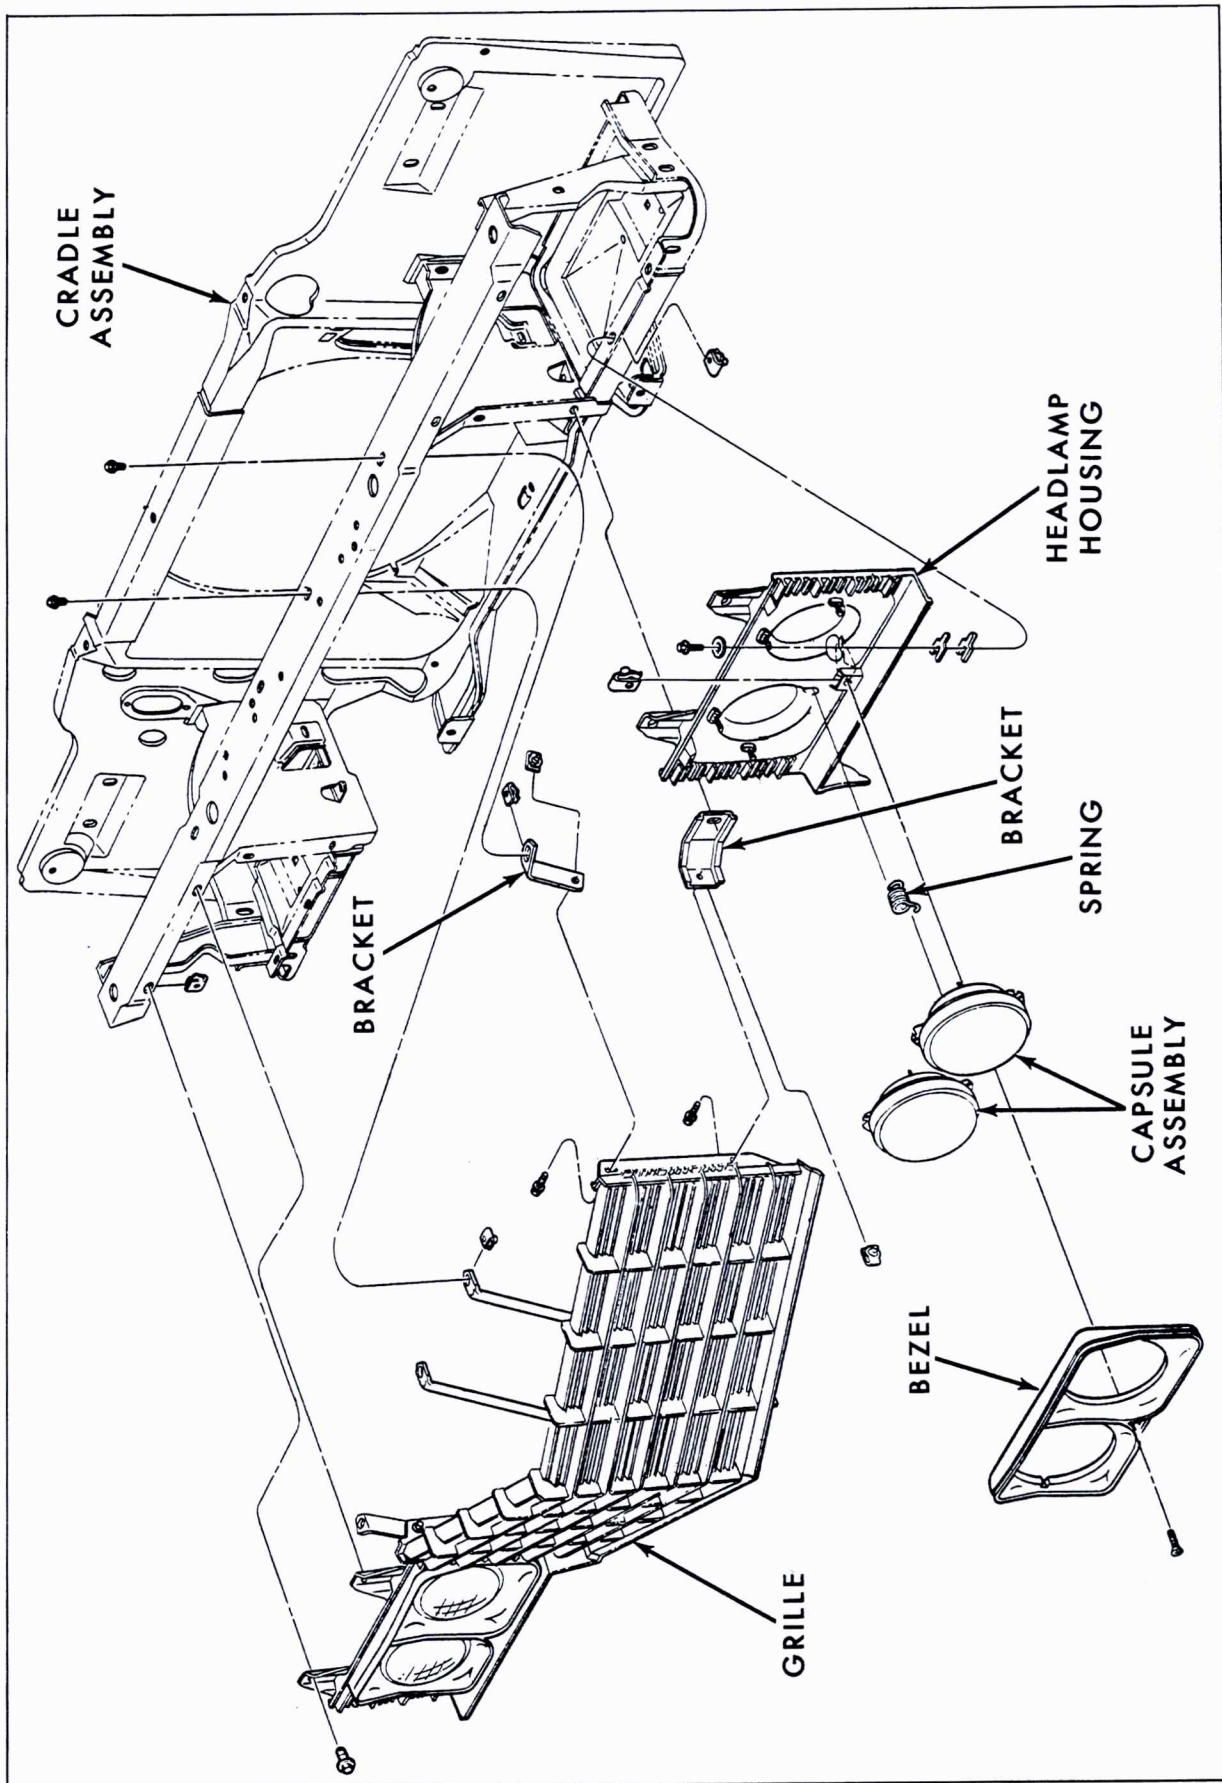

Fig. 13-3 Grille Disassembled
a. Removal (Fig. 13-3)
b. Installation (Fig. 13-3)